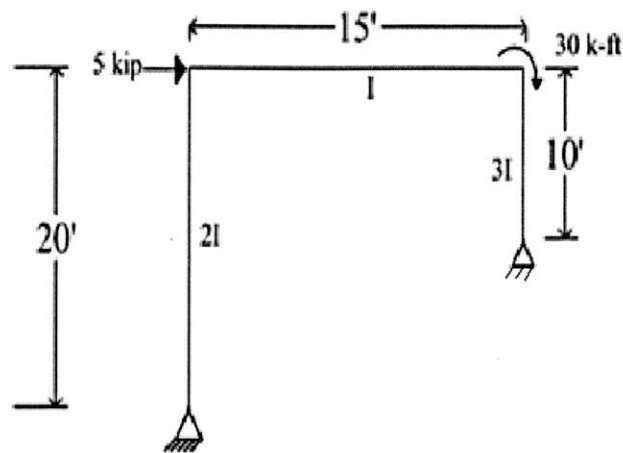

Figure 8
8. Using method of **Consistent Deformation**, analyze and draw SFD and BMD of the frame shown in **Figure 8**. $E = \text{constant}$.